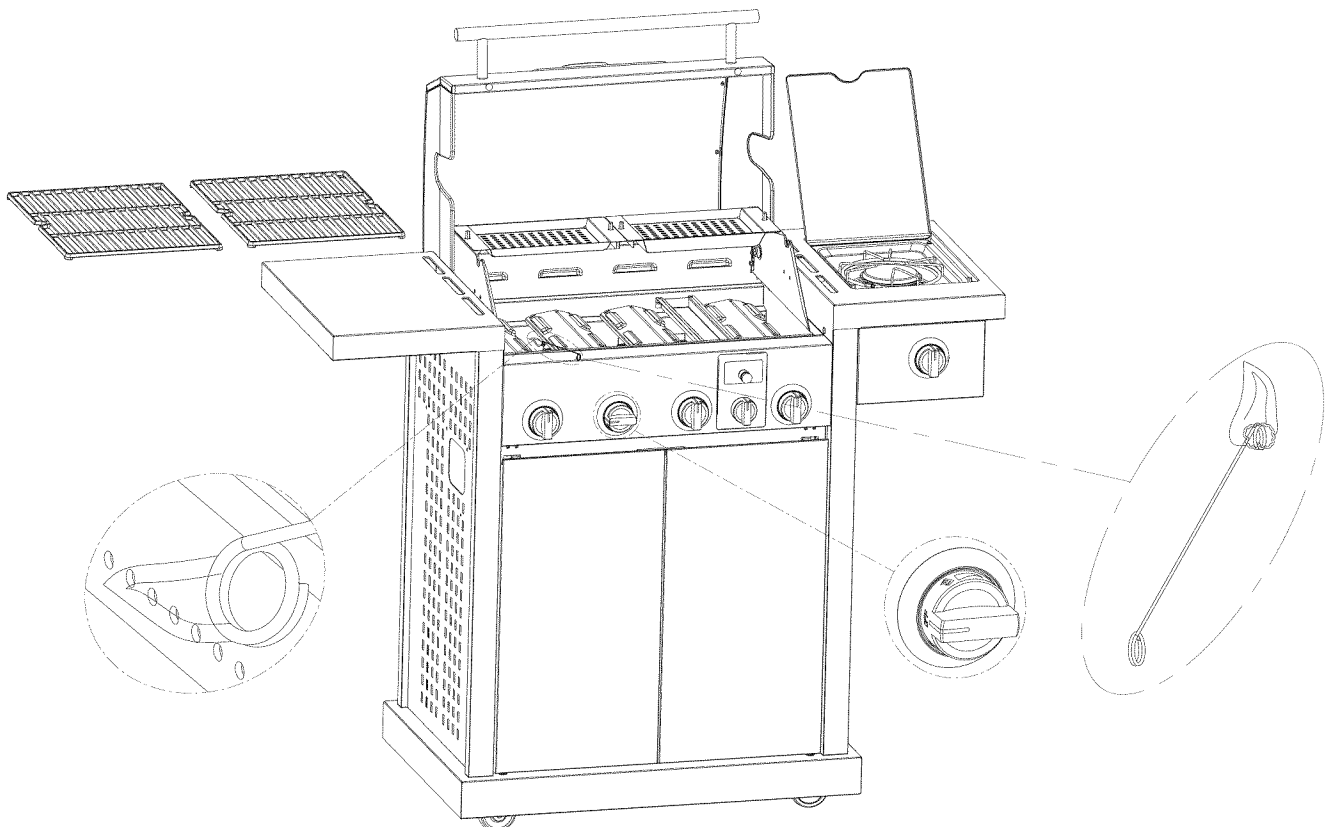

Fig. 18
3. Turn a control knob to the ignite position () as shown in **Fig. 18**.
4. Remove match holder from knot on side of base. Place a lighted match between the coils on the end of the match holder and hold next to the burner to ignite as shown in **Fig. 18**. If ignition does not occur in 5 seconds, turn the burner control knob OFF and contact Consumer Affairs.